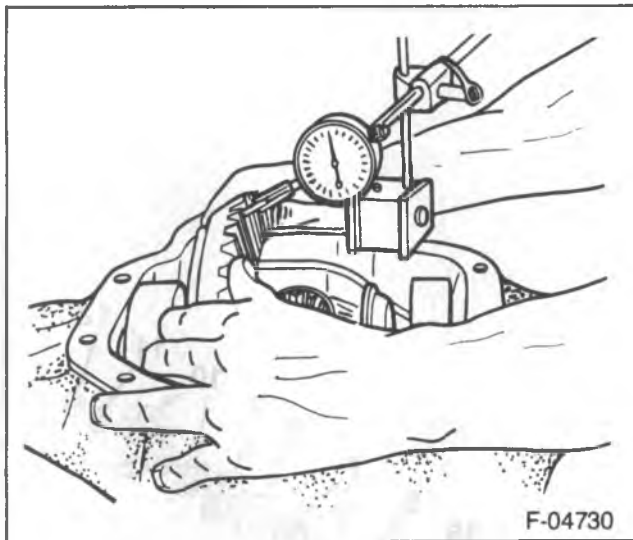

Figure 40—Measuring Backlash
1. Mount a dial indicator with a magnetic base to the axle housing as shown in figure 40.